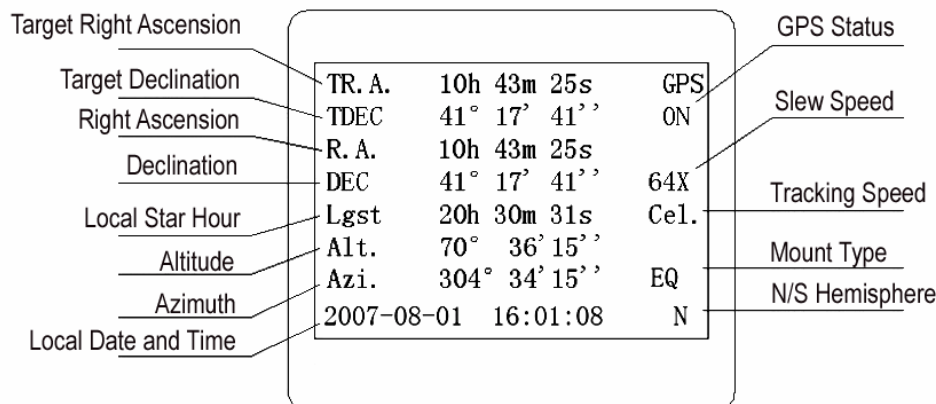

Figure 2. 8402A HC LCD Information Screen
The 8402A HC is designed to use for SmartStar-A GOTO mount and telescopes. It can also be used for iOptron's equatorial (EQ) mount, such as the SmartStar®-PR GOTO German Equatorial Mount and the GOTO NOVA™ Equatorial Kit, as well as all other AltAzimuth (A/A) mounts, which include all SmartStar® GOTO mounts and telescopes. It consists of a large 8-line LCD screen, which displays all the information as shown in Figure 2. The user interface is simple and easy to learn.